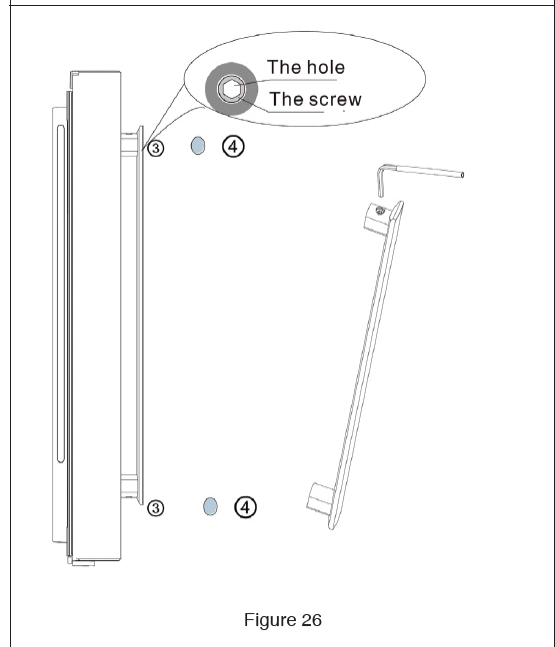

Figure 26
- 2 Attach the handle of the door through the bolt hole 1 and make sure that the handle makes contact to the door surface closely. See Figure 26.